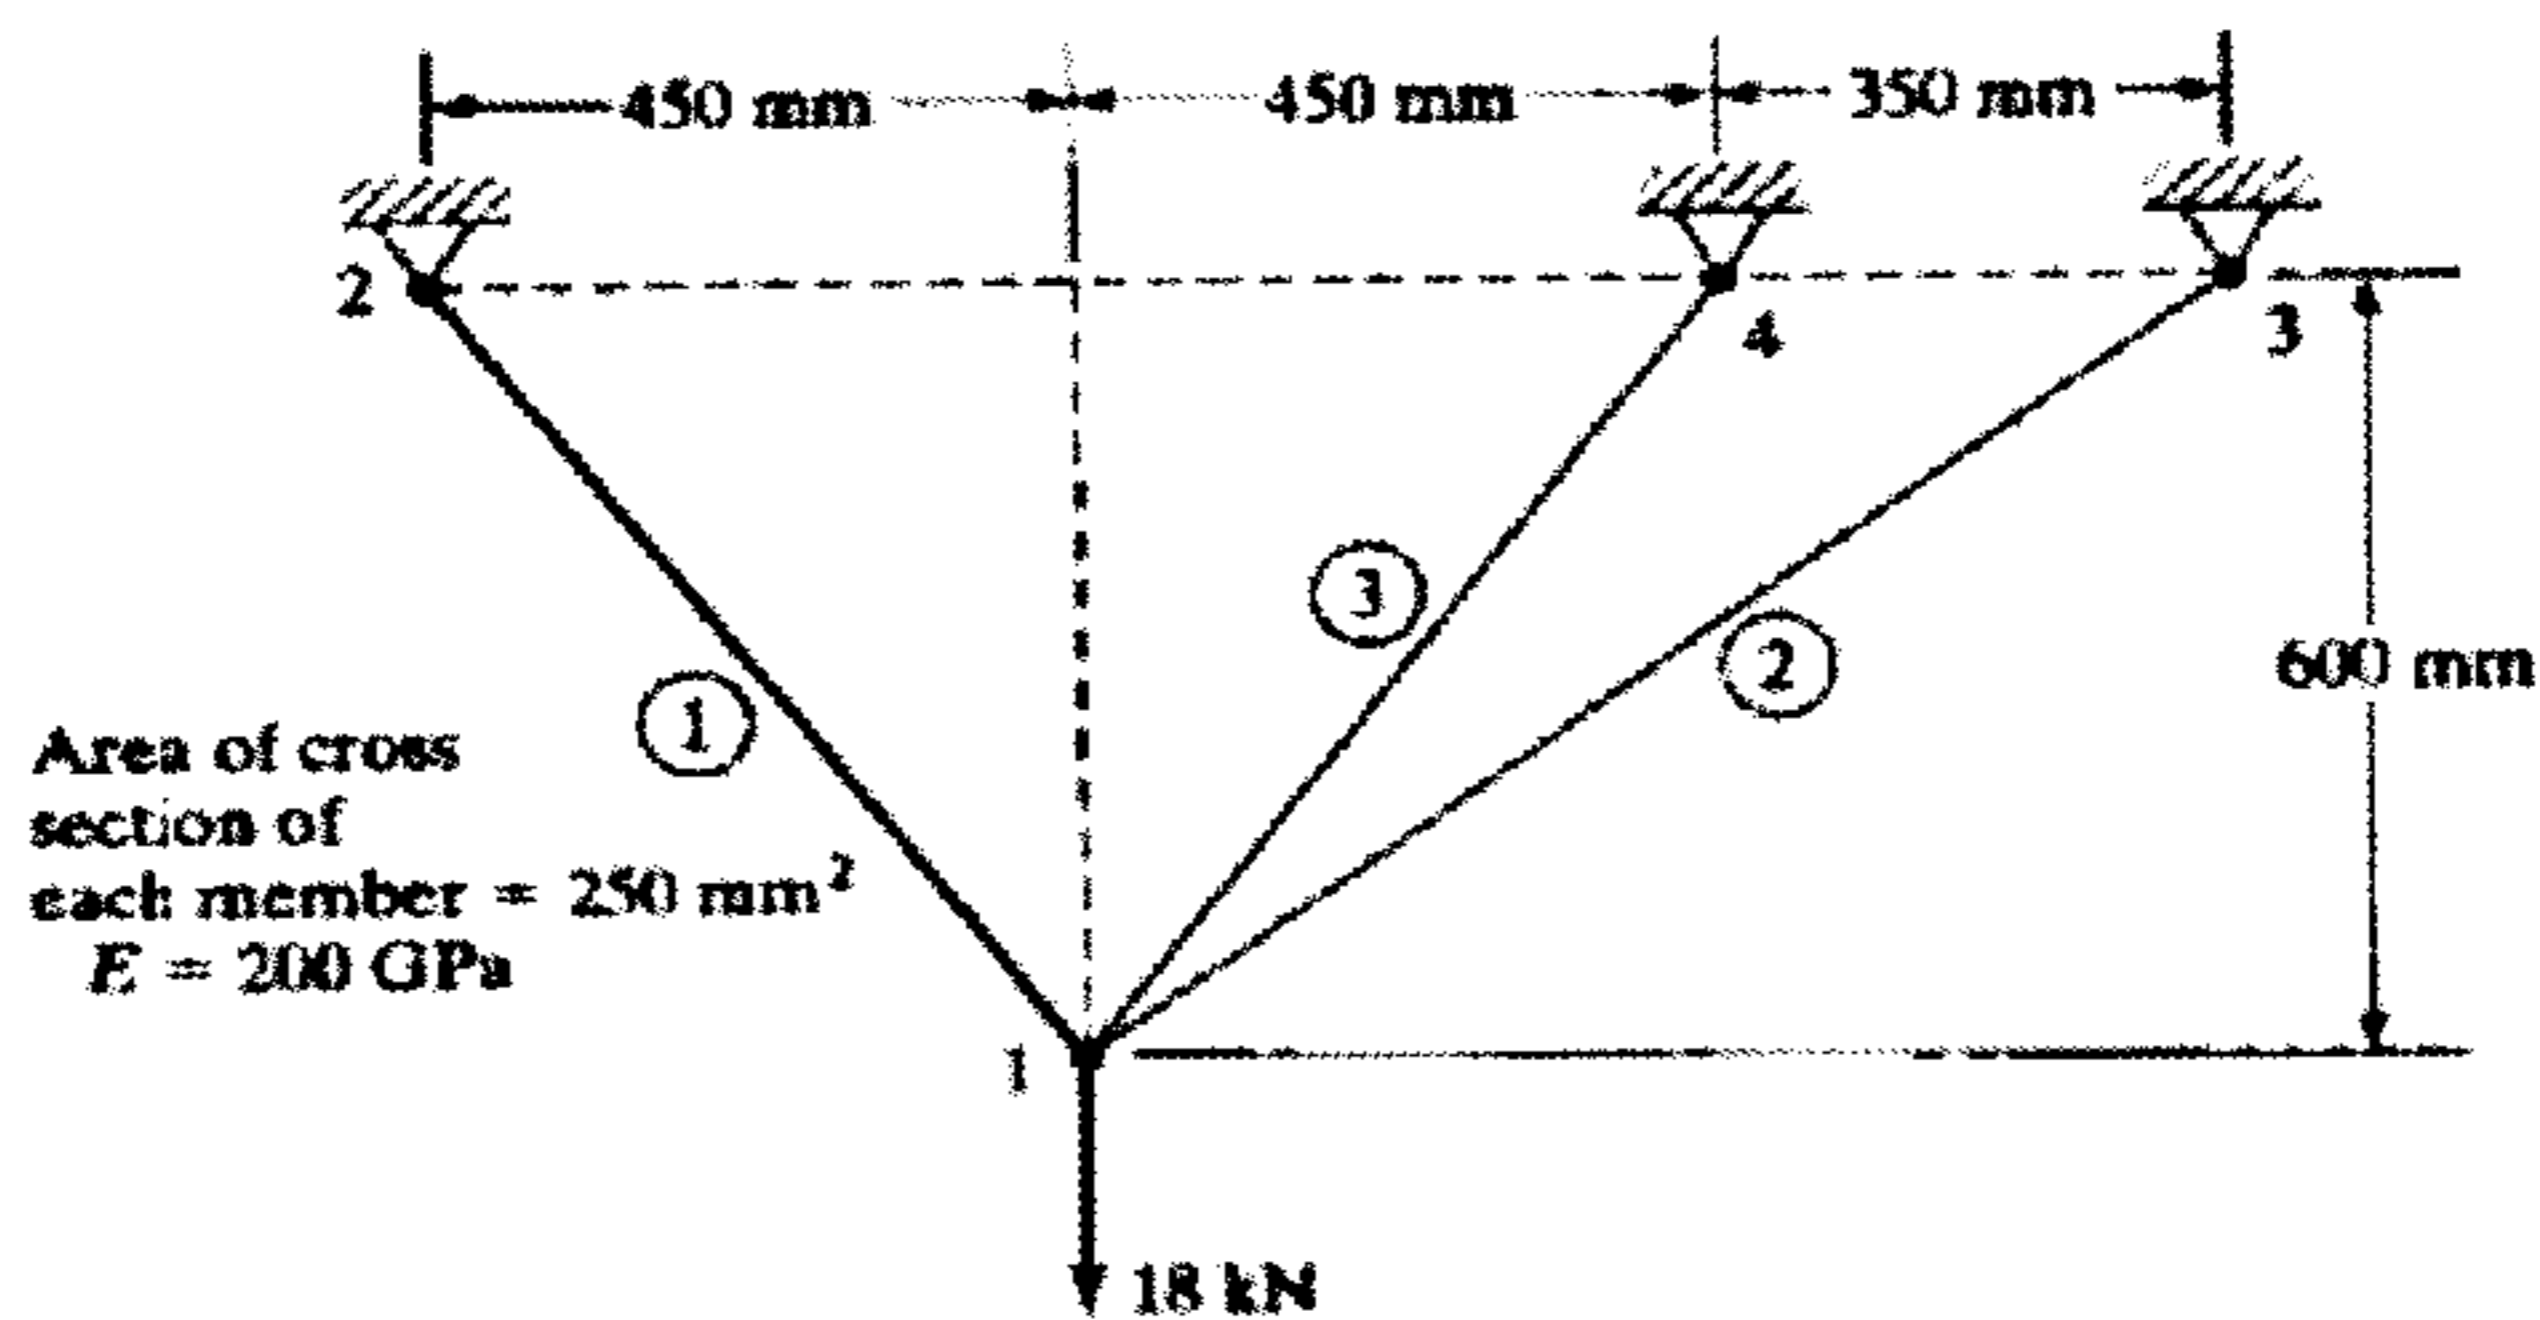

Figure-2
4. For the plane truss shown in Figure-2, determine the horizontal and vertical displacements of the nodes and stress in each element. All elements have  $E=200 \text{ GPa}$  and  $A=250 \text{ mm}^2$ .